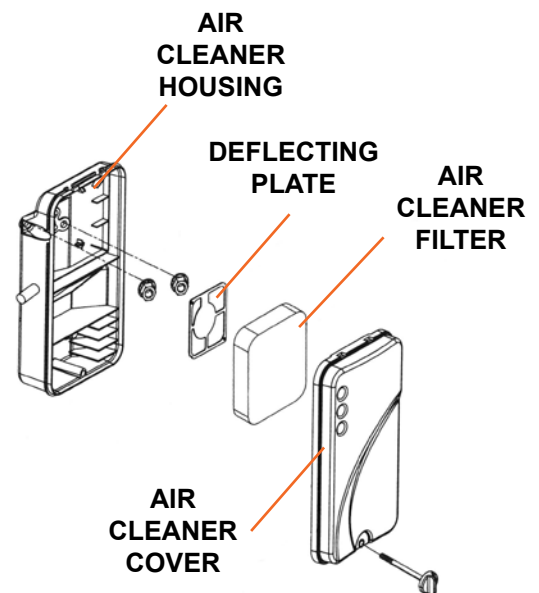

Figure 11
1. Wipe off the air cleaner cover. Loosen the knob at the bottom of the air cleaner housing (see Figure 11).